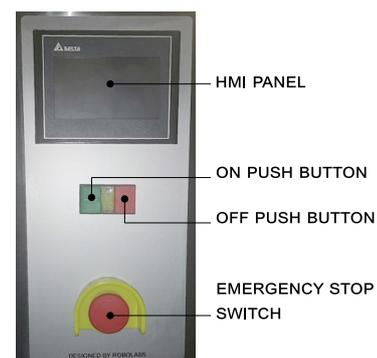

Figure 2: Controls
**Electric panel** accommodates electric components of the machine, and also control panel, see Fig.2.